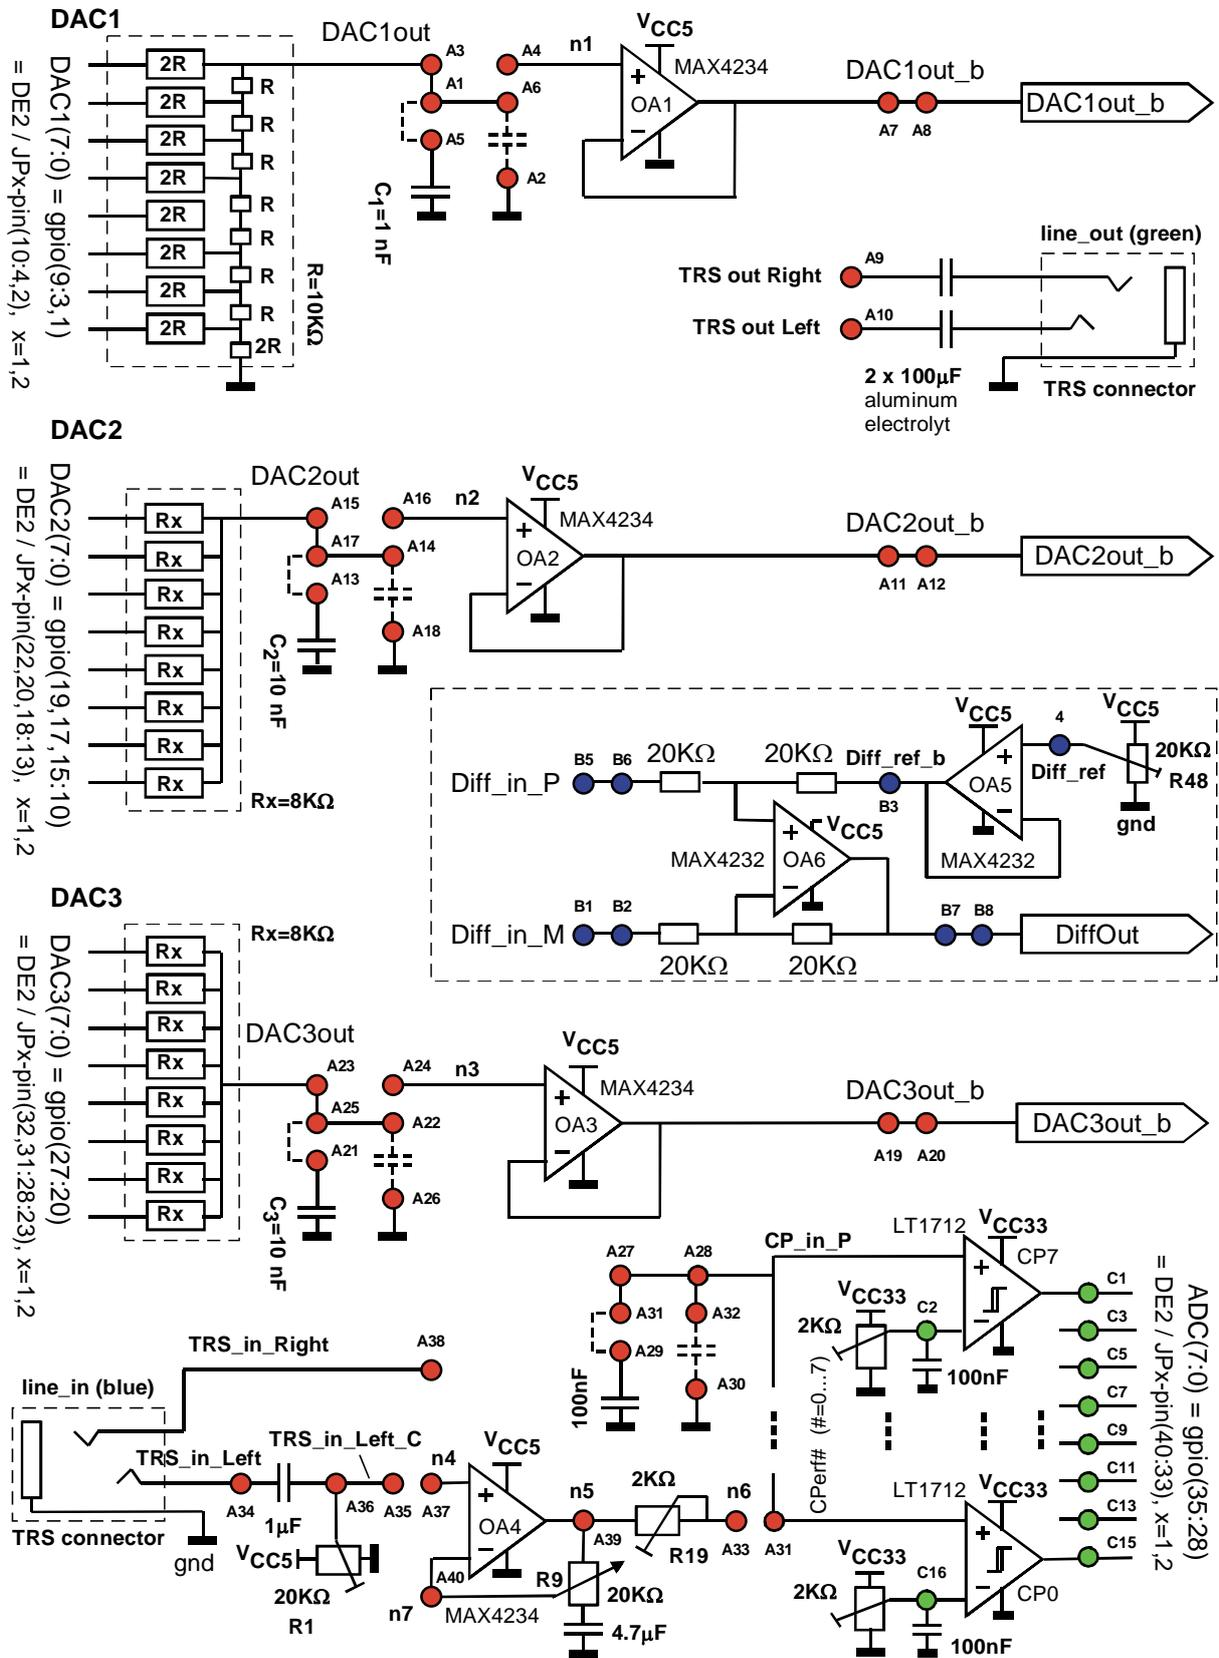

Fig. 4.1-1: Schematics of the DA2 daughter board
- Fig. 4.1-1 shows the DA2 daughter board schematics.
DAC2 and DAC3 in Fig. 4.1-1 deliver 9-level output from 8-bit thermometric code to pins labeled DAC2out and DAC3out, respectively. What is their output resistance for ideal voltage sources and 8KΩ-resistors?
with U_j being $V_{CC33}=3.3V$ or $GND=0V$ as can be seen e.g. from script *A/D/A Converters* [7] or *Schaltungstechnik* [8]. The output impedance of the R2R-DAC in Fig. 4.1-1 is R .
Expected output impedance from Fig. 4.1-1: $Z_{out1,ideal} = \dots\dots\dots$